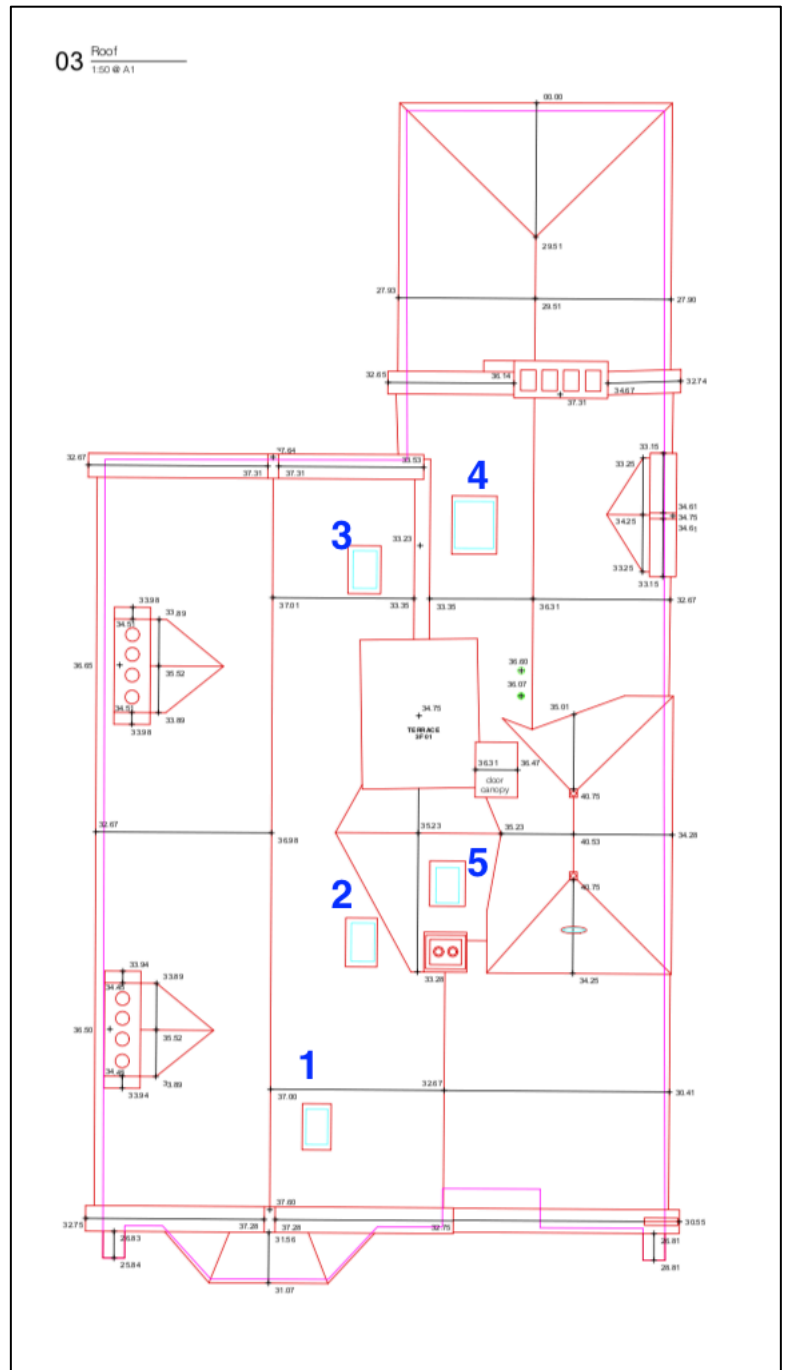

Figure 2: Existing sky light configuration
2) Skylights (please see fig.2)